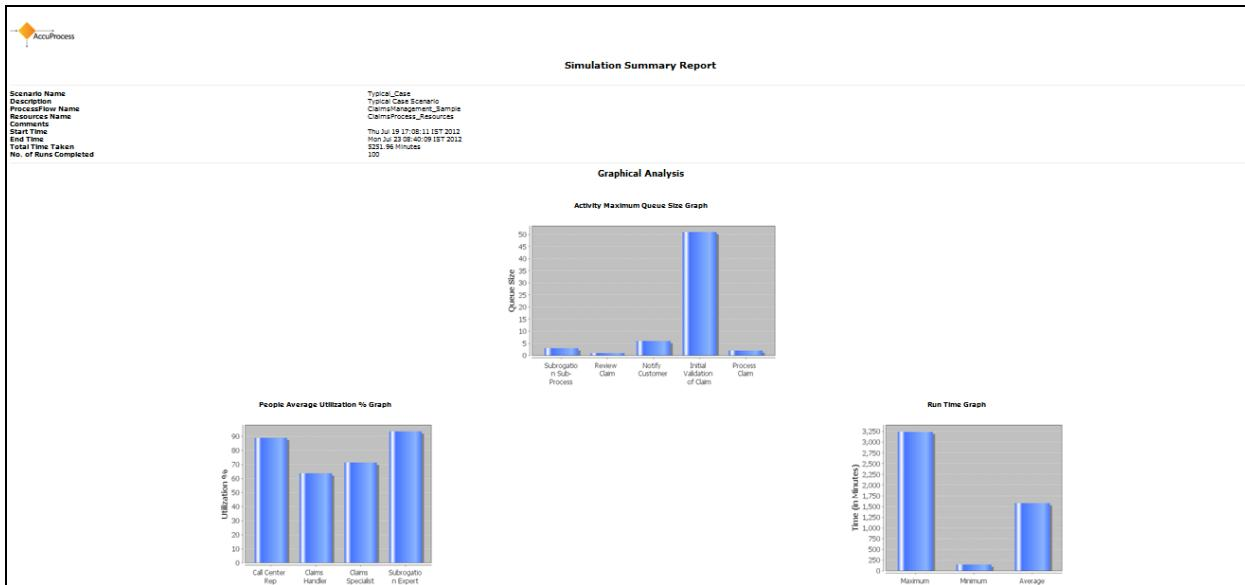

Figure 19: Simulation Summary Report (Graphical Analysis)
- To generate the simulation report, click **Generate Simulation Summary Report** (button from the tool bar. The report is generated in the HTML form and shown in your browser. Figure 19 shows the *Simulation Summary* and *Graphical Analysis* report.